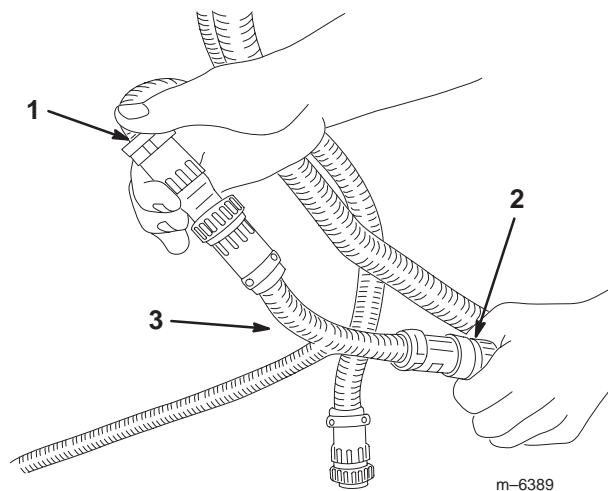

Figure 21
6. Disconnect the connectors under the dash between the manual control box and the spray harness (Fig. 21).
7. Connect the T-end of the new rear control box harness between the manual control box harness and the spray harness (Fig. 21 and 22).